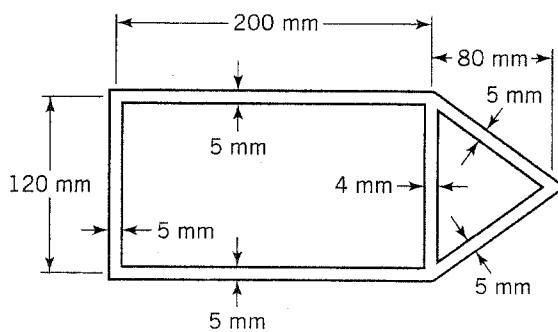

FIGURE P6.57
- 6.57.** The aluminum ($G = 27.1 \text{ GPa}$) hollow thin-wall torsion member in Figure P6.57 has the dimensions shown. Its length is 3.00 m. If the member is subjected to a torque $T = 11.0 \text{ kN} \cdot \text{m}$, determine the maximum shear stress and angle of twist.